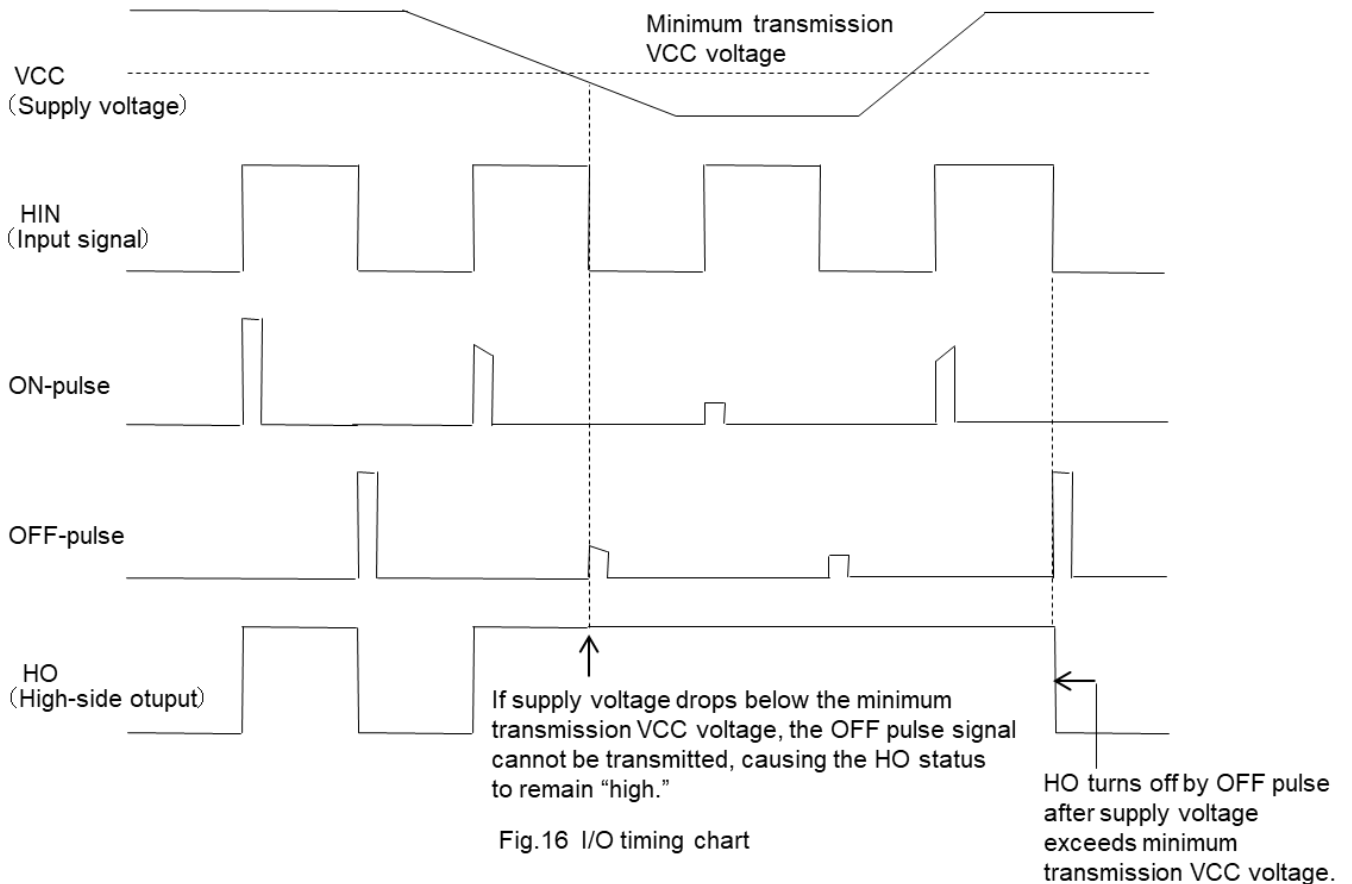

Fig.16 I/O timing chart
Fig.16 shows I/O timing chart. When the “high” signal is applied to the high-side input (HIN) pin, ON pulse occurs at the rising edge timing of the signal. The ON pulse enters the set input pin of the latch circuit. As a result, the output of the latch circuit becomes “high,” turning the high-side output (HO) status to “high.” Similarly, when the “low” signal is applied to the HIN pin, OFF pulse occurs at the falling edge timing of the signal. The OFF pulse enters the reset input pin of the latch circuit, causing its output to become “low,” turning the HO status to “low.”
As shown in Fig.16, if VCC voltage drops below the minimum level for signal transmission, OFF pulse signal might not be transmitted, causing the HO status to remain “high” even when the signal input to the HIN pin switches from “high” to “low”.